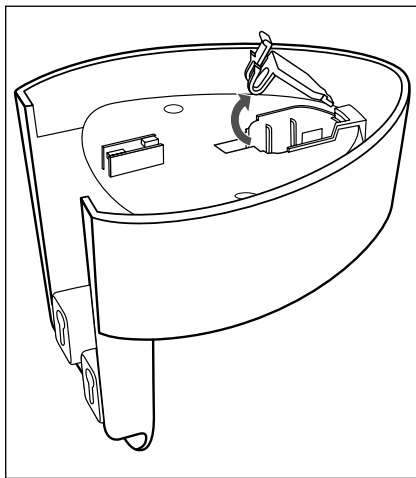

Fig. 1
- Ensure that there are no power cables or other conduits or pipes in the wall at the location where you intend to bore the holes for the wall bracket ③. Drilling into a current-carrying electric cable can be potentially fatal!
- 1) Place the barrel plug ⑤ of the mains adapter ④ into the wall bracket ③ as shown in the following diagram:
- Open up the small cover (fig. 1).